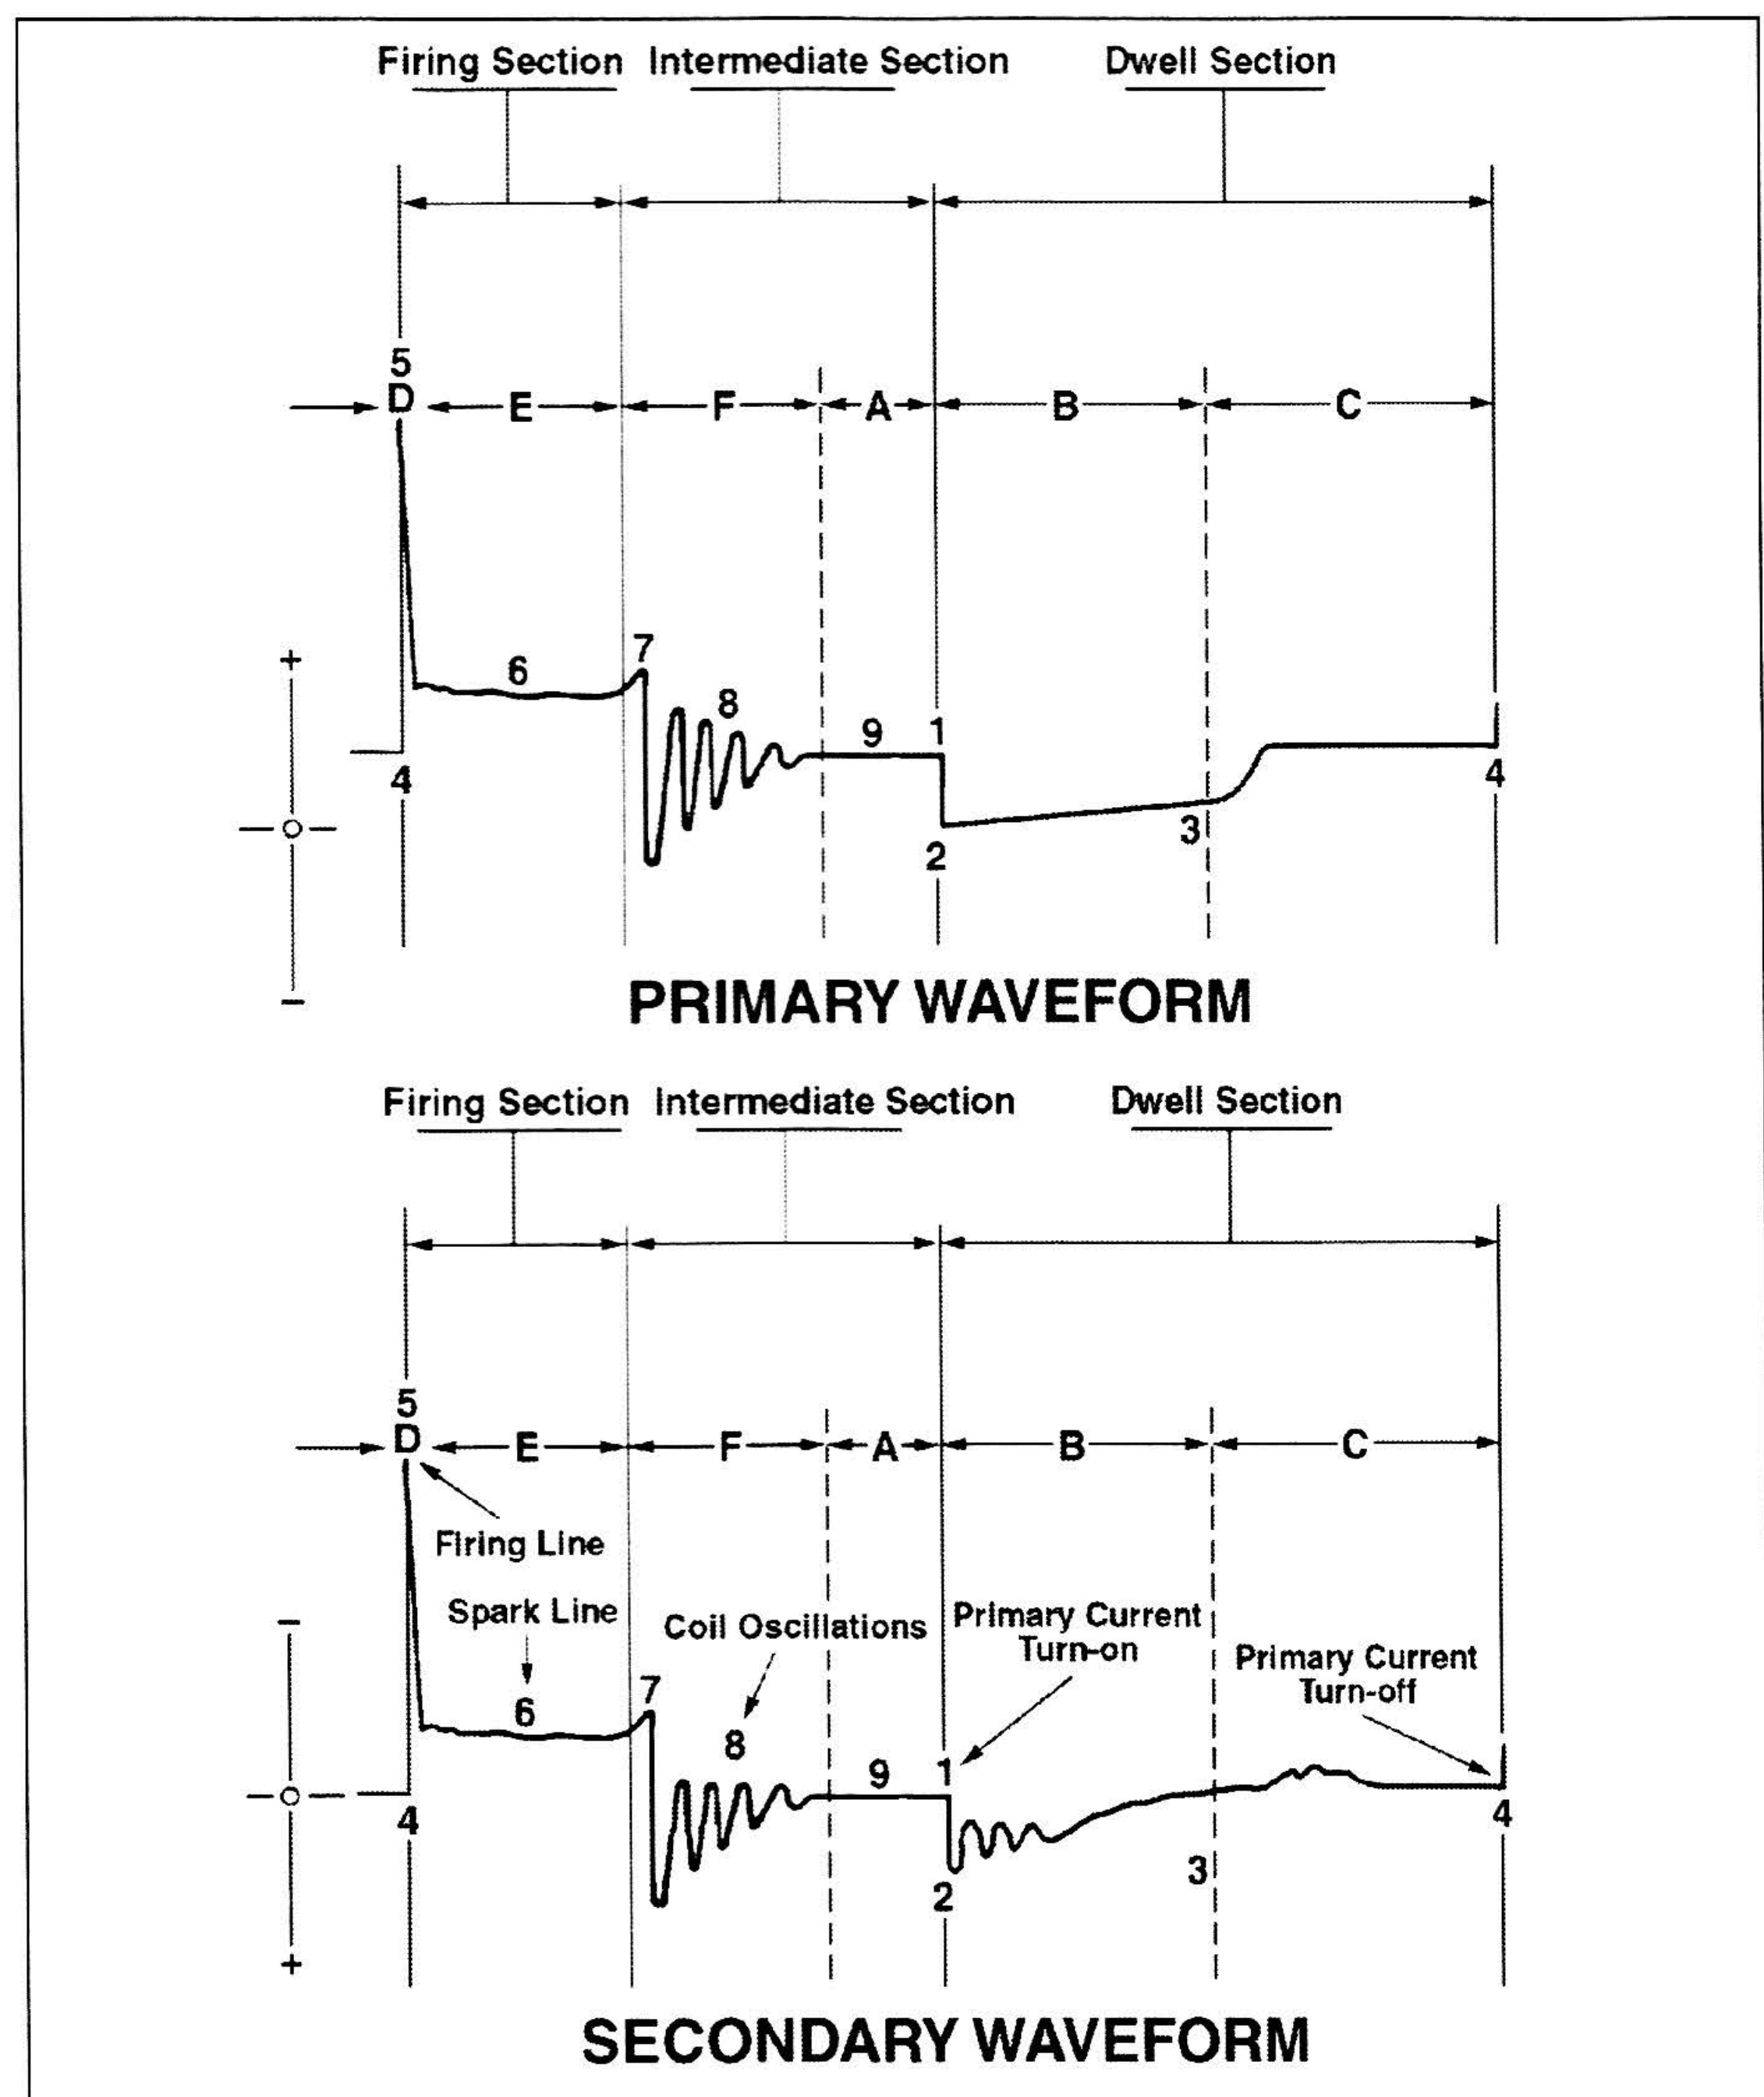

Figure 23: Ignition Circuit Waveforms
The waveforms in *Figure 23* start with a firing line on the left at 4, continue through the phases of ignition system operation, and end with the beginning of another firing line on the right (4). However, the actual ignition cycle for a cylinder should be considered from primary turn-on (1) to primary turn-on. Therefore, the description and explanation of the waveforms begins just before primary turn-on at 9.
This description of the waveforms includes the dwell portion (3) from primary turn-on (1) to primary turn-off (4). Numbers 1–9 refer to the numbered points in *Figure 23*.